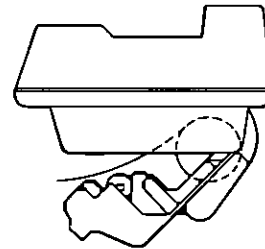

Fig 2
2 (1) Load the copy paper roll (Fig 2)